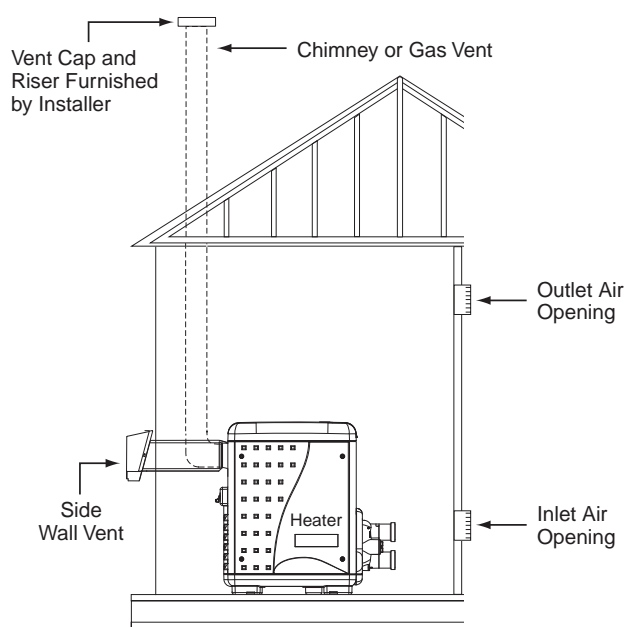

Figure 14.
## **HORIZONTAL OR VERTICAL VENTING - POSITIVE PRESSURE** (See Figures 14, 15, and 16)
1. Order an optional appliance adapter kit, (*Pentair offers optional appliance adapter kits, call Customer Service at (800) 831-7133 for more information*): Part No. 77707-0086 for Saf-T Vent® or Saf-T Vent® CI. Part No. 77707-0087 for Z-Vent.
6. **Vent Termination – Vertical** (See Figures 14 and 15), for height of vent termination above the roof. Use an "Approved" vent terminal specified by local and national codes and your manufacturer's instructions. A roof termination must be vertical. In Canada, the Vent Cap location shall have a minimum clearance of 4 feet (1.2M) horizontally from electric meters, gas meters, regulators, and relief openings.